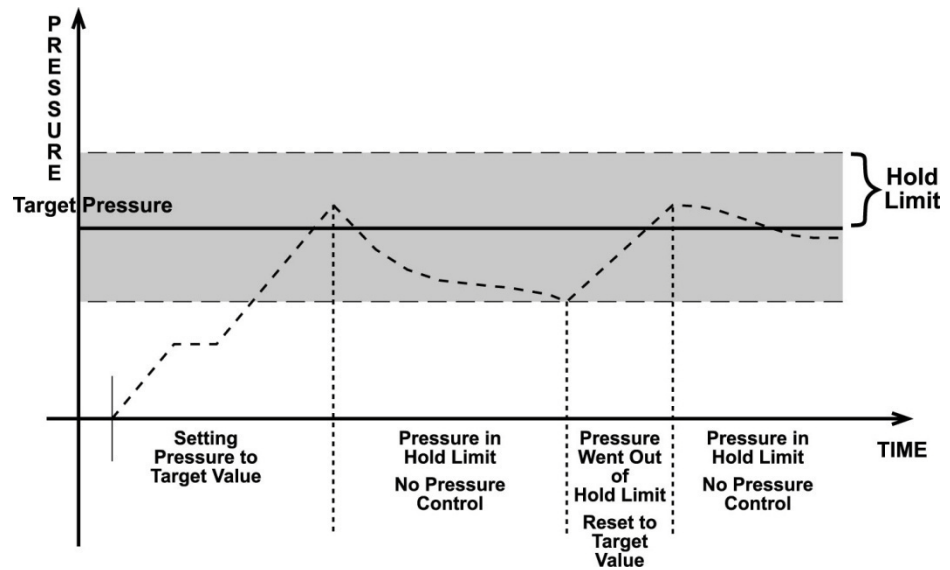

Figure 4. Static Pressure Control Operation
**Static control** mode is designed to set the pressure near the target value and then interrupt active control to allow pressure to stabilize naturally within the hold limit. The advantage of this control mode is that pressure can be set and/or measured within a defined limit of a target without interference from the pressure control system. In a system without excessive leaks, the pressure stability achieved may be greater than the stability with which the pressure control system can actively control pressure. Using static control to control pressure near the desired set point and then measuring back the stabilized pressure without interference of the control function can allow control errors to be completely eliminated. However, the final pressure achieved is not equal to the target value. During static pressure control, the hold limit is active. If the pressure goes outside of the hold limit, a *Not Ready* condition occurs (see Section 3.2.3) and pressure is readjusted to the target value (see Figure 4). For default values for hold and stability limits, see Table 6 and Table 7. To customize the hold and stability limits see Section 4.7.8.2.1.